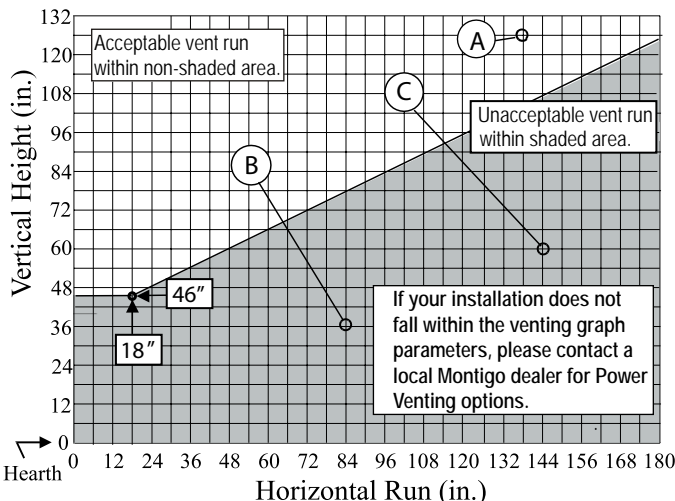

Figure 12. H38C\* or HL38C\* Top Vent Venting Graph for wall mounted terminations.
\* **Note:** Elbow must be installed directly off the back of the fireplace. If additional horizontal distance is required the vent run must be increased a 2:1 Horizontal to Vertical ratio. See vent graph, Figure 12 or 13 for rear vented, wall mounted terminations
- Once the proposed venting layout has been determined refer to either Figure 12, 12a, 14, or 14a to ensure the layout is acceptable.
- Venting runs *must* fall within the limits set by the venting graphs, see **Figure 12 or 12a**.
Measure the vertical height from the fireplace hearth to the centre of the termination and the horizontal run from the fireplace flue collar to the wall flange of the termination. Plot on the Venting Graph **Figure 12 or 12a** with an 'X'.
Figure 13a. H38C\* or HL38C\* Top Vented, wall mounted installation with one 90° bend. The vent run must comply with Venting Graph for Top vent, wall mounted terminations, Figure 12.
Figure 13b. H38C\*, HL38C\* or HP38C\* Top Vented, wall mounted Multi-elbow installation. See Venting Graph for Top vent, wall mounted terminations, Figure 12 or 12a.
Figure 13c. H38C\*, HL38C\* or HP38C\* Top Vented, wall mounted Retracted Multi-elbow installation. See Venting Graph for Top vent, wall mounted terminations, Figure 12 or 12a.